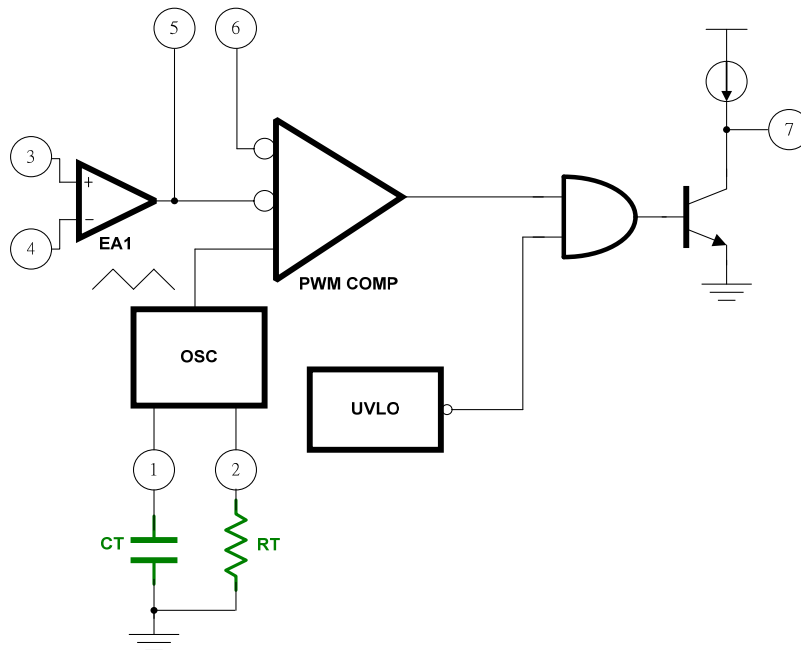
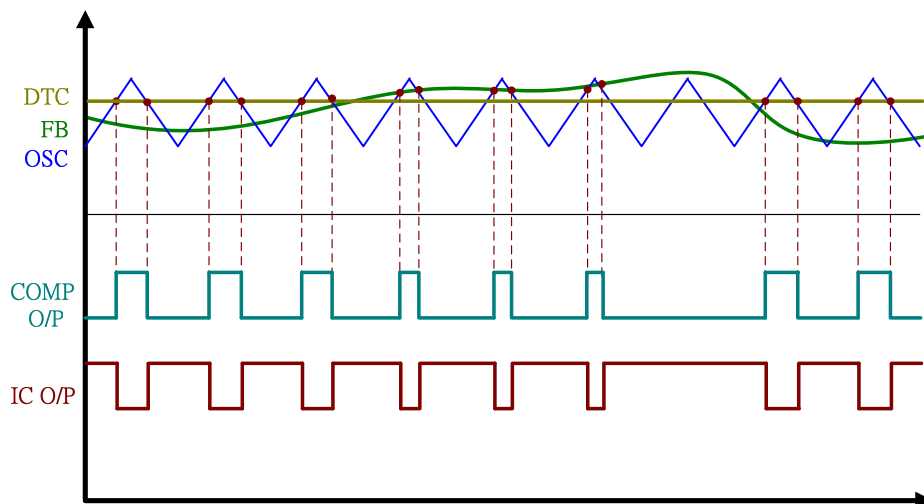

Figure 21 Oscillator / PWM Comparator with Frequency RC circuits
Figure 22 FP5462 Timing Waveforms
The oscillator frequency can be adjusted from 20KHz to 500KHz by the capacitor (CT) and resistor (RT) which are connected with pin1 and pin2 of FP5462 respectively. The tri-angular waveform on CT pin would be compared with output signal of the error amplifier and duty control voltage. Figure 21 shows the relationship of oscillator, error amplifier and PWM comparator. Figure 22 shows the FP5462 pin waveforms.